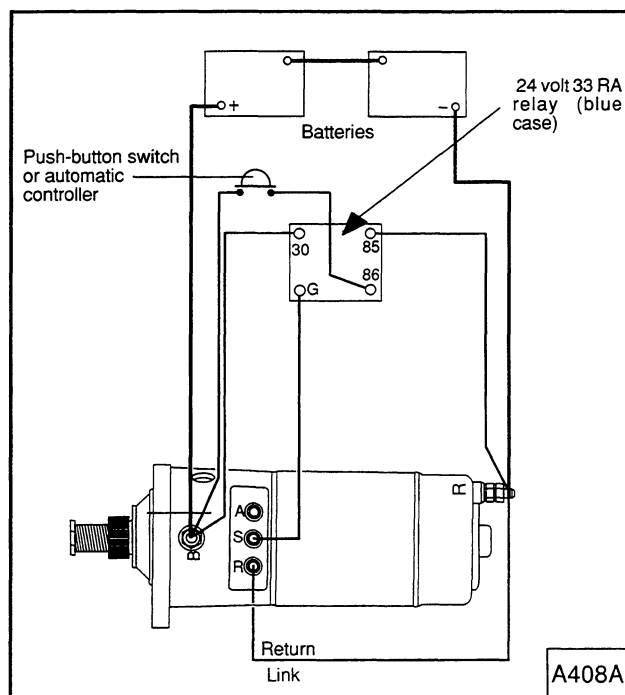

Fig. 6A Circuit Diagram
1.3.1 Relay (See Figs. 6A and 6B)